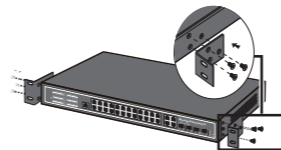

Fig.3.1.1 Installation Schematic diagram
- 2.Install the two L-brackets in the accessory on each side of the switch panel and secure with screws in the accessory, see Fig.3.1.1.